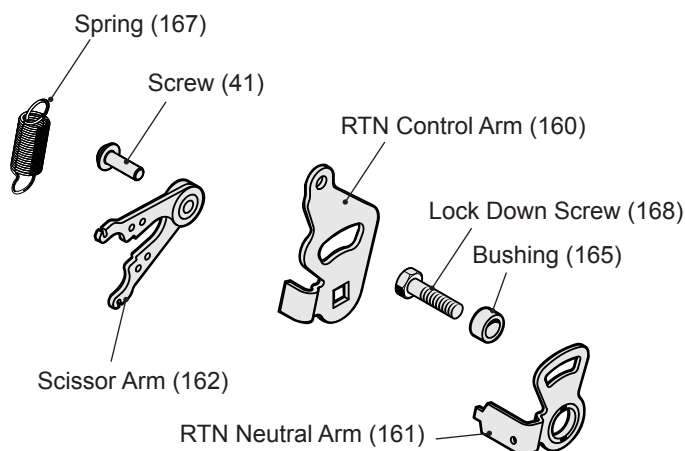

Figure 4, Return to Neutral
2. Remove the Original Equipment Manufacturer's (OEM's) control linkage at the control arm. Refer to Figure 4.
5. Stop the vehicle's engine. Reattach and adjust the OEM linkage according to the OEM manual. Recheck according to Step 3 and 4. Stop the vehicle engine. Refer to Figure 4.
6. Note the axle directional movement. Stop the vehicle engine. Loosen the lock down screw (168) until the control arm (160) can be rotated. Rotate the control arm in the same direction of the wheel rotation in small increments. Tighten the lock down screw. Recheck according to steps 3 and 4. Refer to Figure 4.